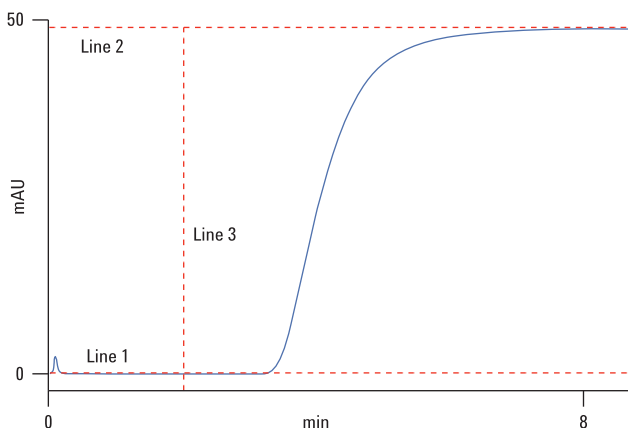

Figure 21. Calculating dwell (delay) volumes, step two
3. Vertical line at 2.0 minutes. Your image should look like Figure 21.